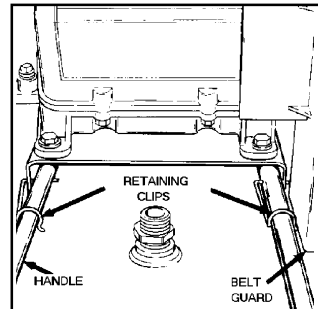

Fig. 6
4. Rotate each retaining clip clockwise and press down until it snaps into place over the pull handle (Fig. 6).